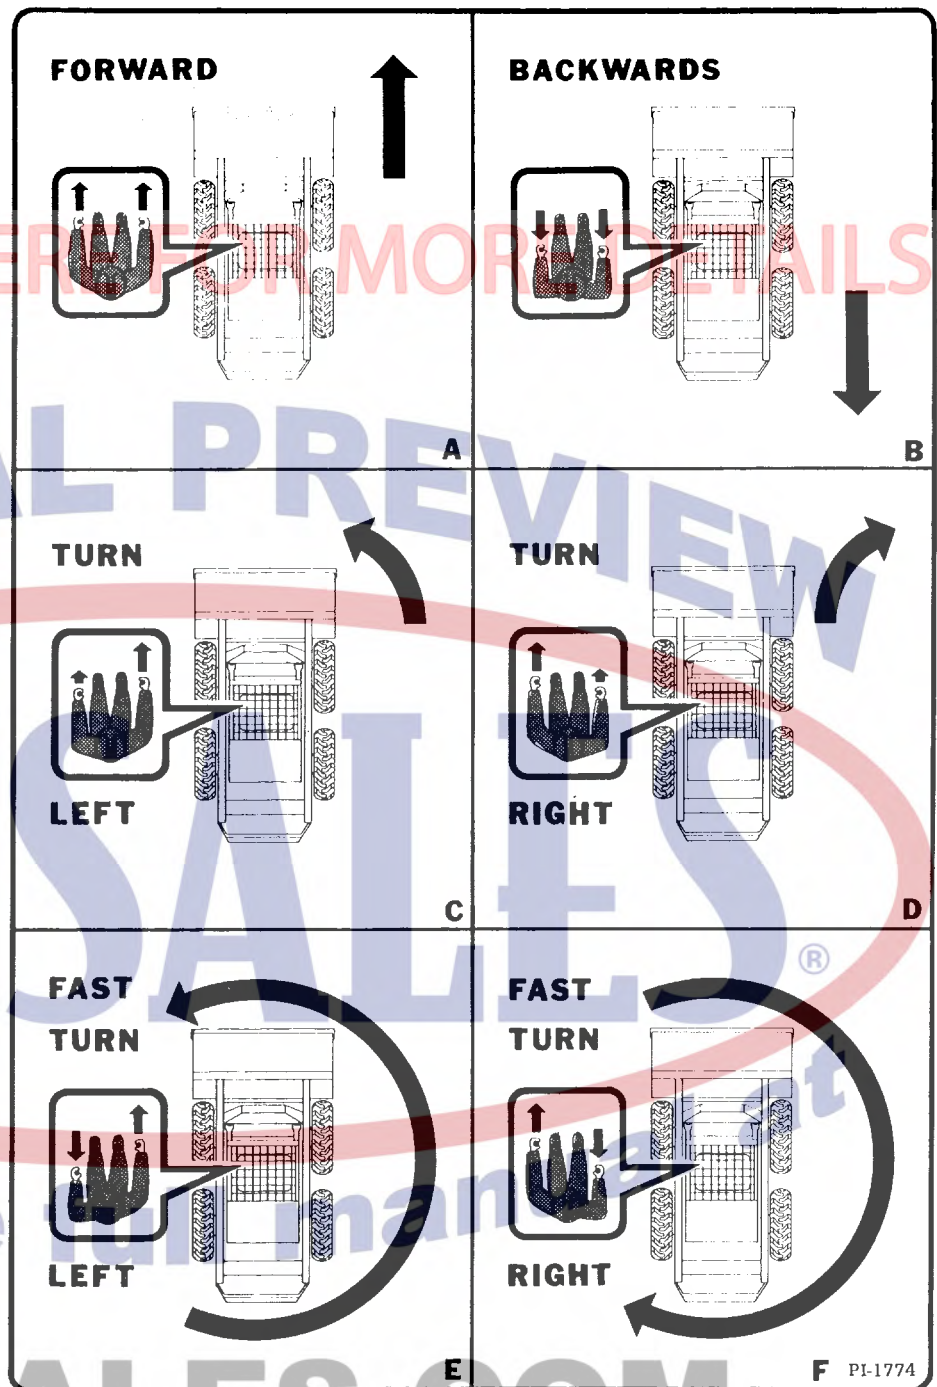

Fig. 7 Steering the Bobcat Loader
The machine is steered by moving one of the levers further ahead than the other (Fig. 7). Moving the left lever further ahead than the right will cause the machine to turn to the right (D). Moving the right lever further ahead than the left will cause the machine to turn to the left (C).